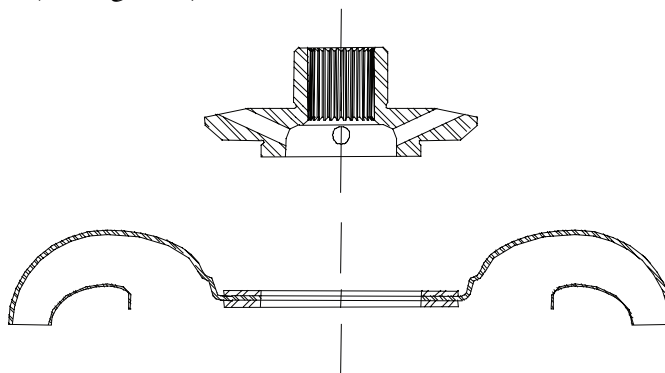

Figure 2
- Insert the turbine hub into the turbine (see Figure 2).